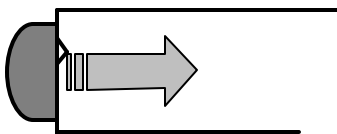

Figure 4
- Bolt ends with recessed grademarks, as shown in Figure 4. Couplant can be used to fill recessed grademarks. Small indentations cause some loss of signal strength, but normal measurement is still possible. Large or numerous indentations cause the signal to be too weak for reliable measurement.